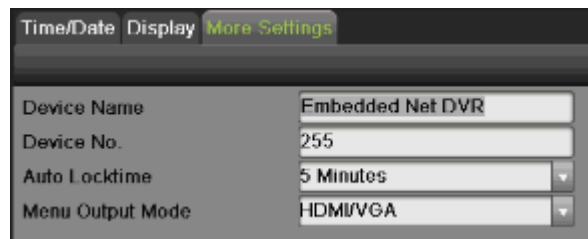

Figure 59 More Settings Menu
2. Set device name, device no., CVBS output brightness, auto lock time and menu output mode by going to Menu > System Configuration > General > More Settings, as shown in Figure 59.